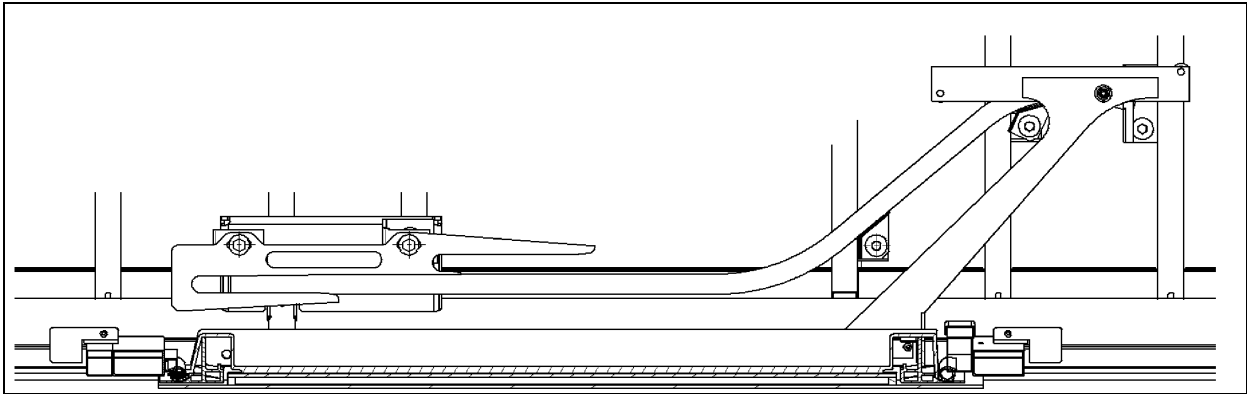

FIGURE 54: WCL UPPER ARM AND RAIL
2. Slide the top rail into the upper arm then bolt the rail to the structure. Do not fully tighten (Refer to Figure 54).